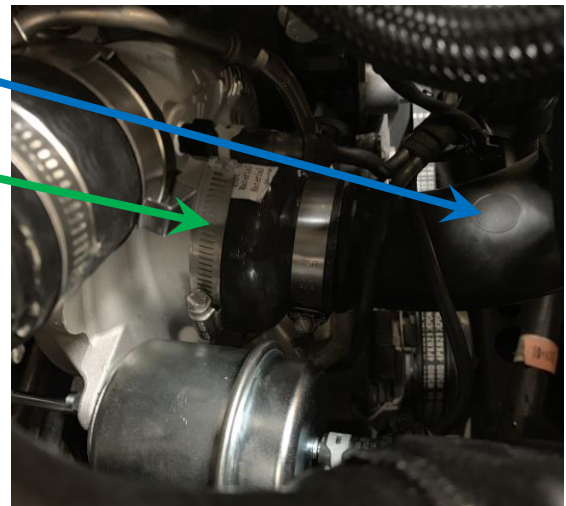

Fig. 30
2. Use worm clamp part number 31350 included in the kit and secure tube into final position. See Fig. 30